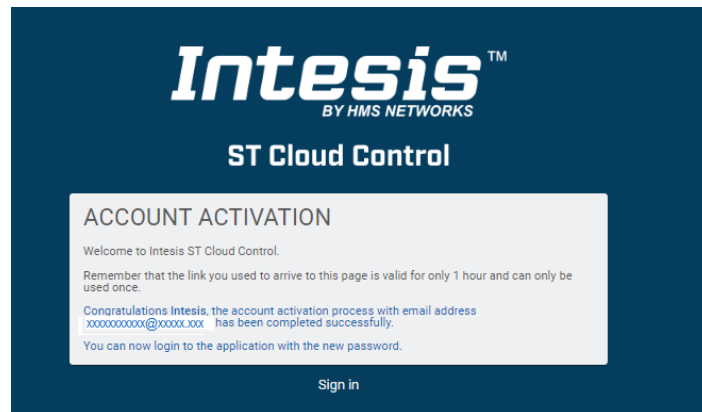

Figure 3.1 Registration process successfully done.
A valid user account is needed to login to the ST Cloud Control. To do it, open ST Cloud Control app (See Figure 3.1).
- Type the restarted e-mail and password on the corresponding fields (See Figure 3.1).
- Once this data is entered, click on **Sign in** button (See Figure 3.1).